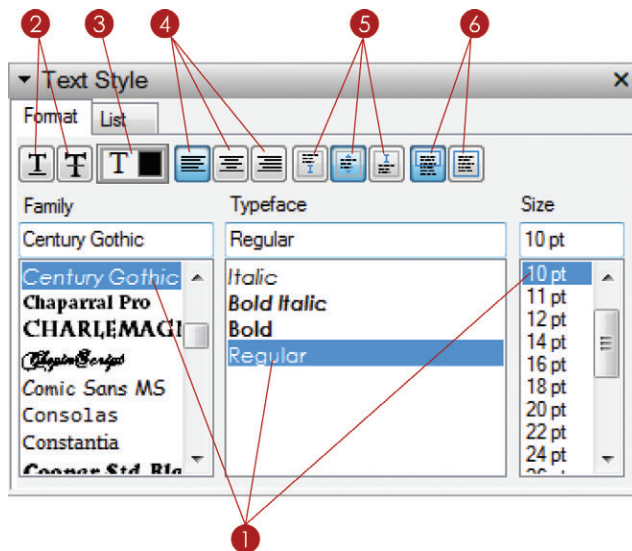

Figure 10.27 The Text Style Inspector
The Text Style Inspector has a familiar interface that is used in most word processors and email programs (Figure 10.27). Activate the Text tool and then use the Text Style Inspector to set the default text properties. You can also select a piece of text within a text box and modify the properties of the selection with the Text Style Inspector.
3. Click on the color swatch to modify the text color. This automatically opens the Colors Inspector where you can select a color. The active swatch will have a darker box around it, as shown in Figure 10.27.